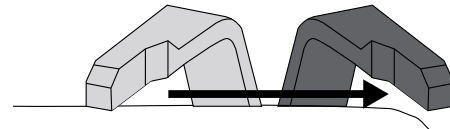

Figure 14 - Choke Lever - OFF
11. After cold start: After engine starts gradually move the choke lever back to the **OFF** position (see Figure 14 below).
- After cold start: After engine starts gradually move the choke lever back to the **OFF** position (see Figure 14).